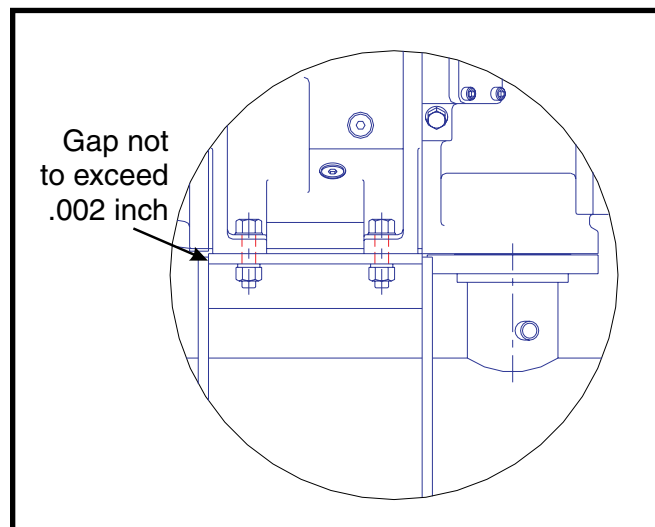

Figure 28. Set replacement compressor and motor assembly on separator flange
8. Shim any compressor feet that exhibit a gap (gauge reading + .002"). A pry or jack can be used to lift the compressor .002". Reinstall and tighten bolts in feet. Reference Figure 28. Then, bolt the compressor to the support base and torque the mounting bolts to 250 ft-lb.